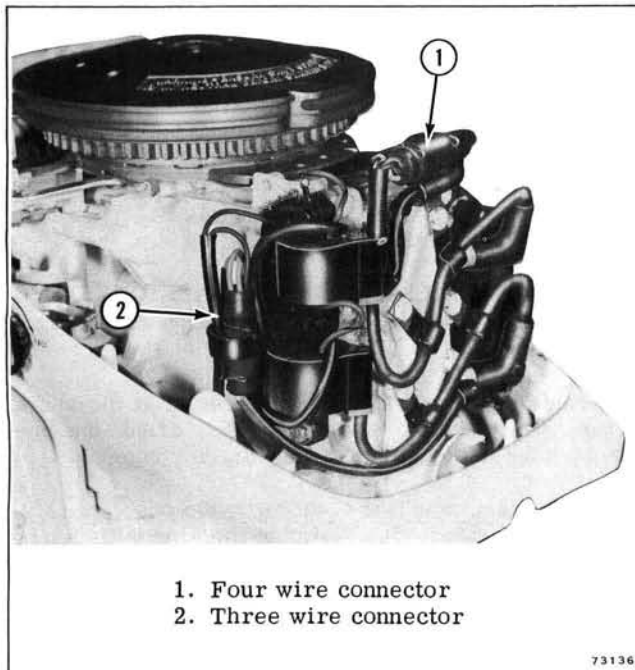

Figure 4-15. Cable Connectors
a. Separate the three wire connector between the power pack and ignition coils. See Figure 4-15.
a. Separate the four wire connector between the armature plate and power pack. See Figure 4-15.